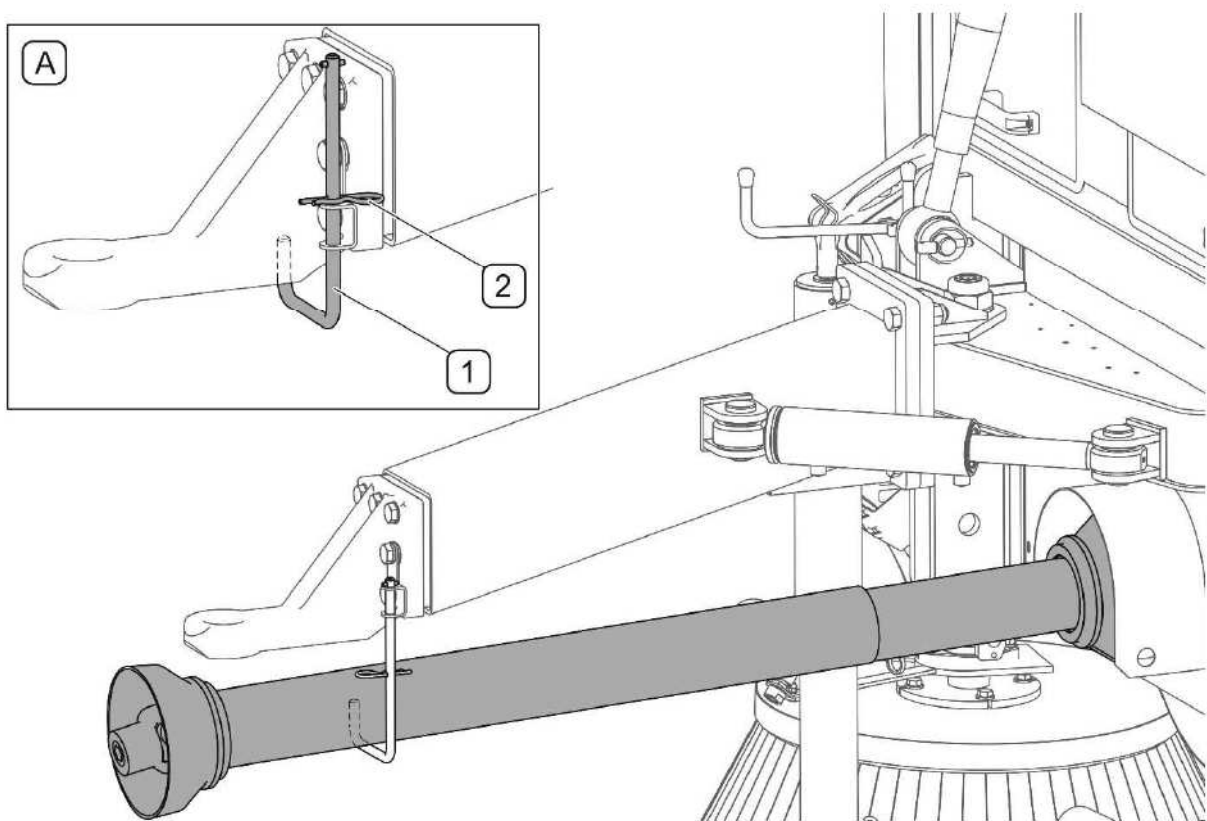

FIG. 4.17 PTO shaft bracket
- Disconnect PTO shaft and install it on PTO shaft bracket (FIG. 4.17)